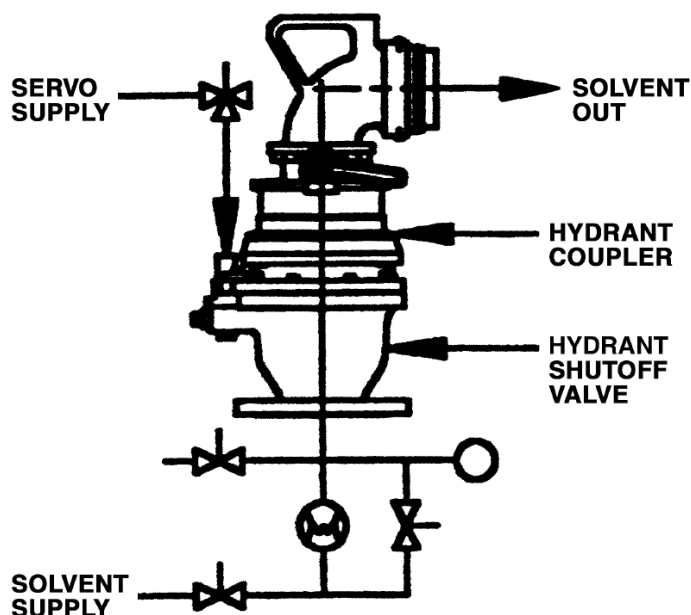

Figure 9. Leakage Test Setup
1. Install the valve in a test setup equivalent to Figure 9.